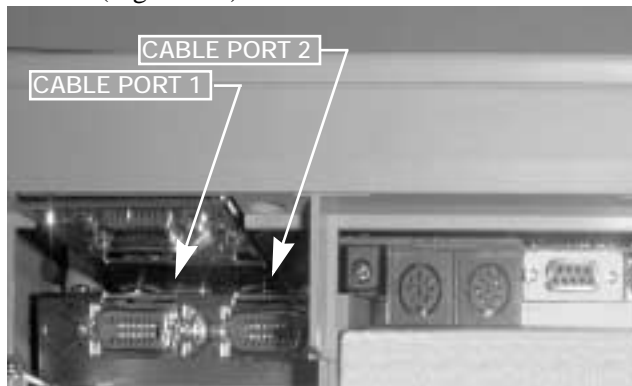

Figure 2-5. Scale Base Connector Ports
2. Connect load cell cable from scale to Cable Port 1 in the back of the keyboard (Figure 2-5).